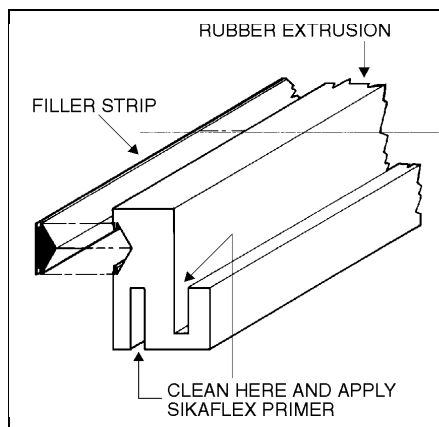

FIGURE 58: WINDSHIELD 18101
- Apply Sikaflex primer 449/203 (Prévost # 681091) with a paint brush or applicator in the channels around the rubber extrusion, and let dry 20 to 25 minutes while proceeding with the next steps. See figure 58.